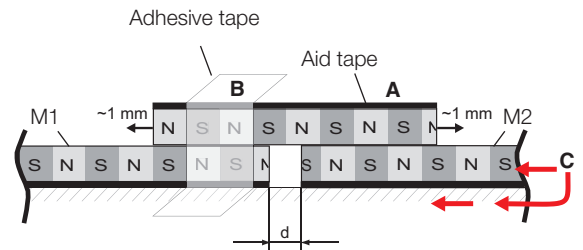

Fig. 4-10: Tape M2 to be attached, underneath the aid tape, d = 4-10 mm
3. Turn the aid tape around and place it on tape M1. The aid tape will be *engaged* by the magnetic forces from the opposite pole (Fig. 4-10). To find the position with the maximum attraction, move the aid tape by approx. 1 mm in both directions until you find the area with the maximum attraction. The aid tape must be fixed in the position using e.g. adhesive tape.
4. Slide the beginning of the second tape M2 under the aid tape until it is near tape M1 and let it *engage* (Fig. 4-10). Leave enough distance (d) to M1, e.g. 4-10 mm.